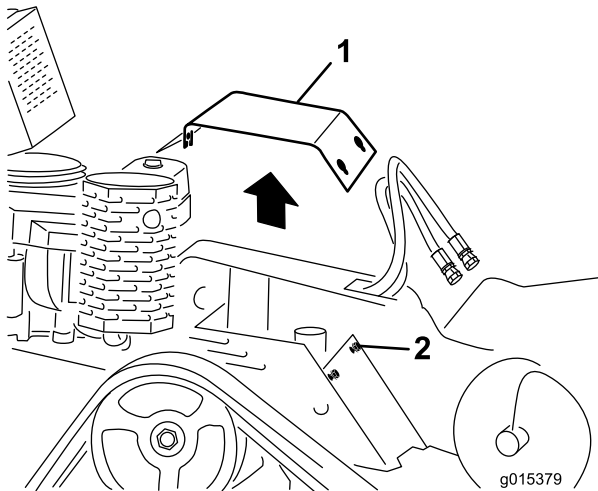

Figure 25
3. Loosen the three bolts securing the cover plate to the frame sequentially until the cover is loose (Figure 25).
2. Slide the cover plate into place and secure it with the three bolts you loosened previously (Figure 25).